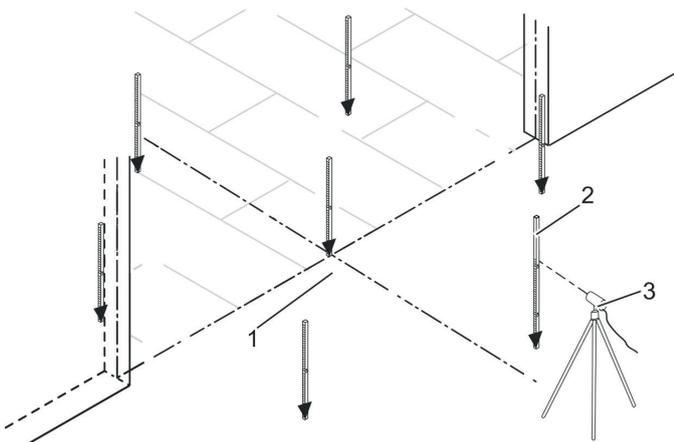

Fig. 35 Leveling finished floor
2. Position the laser leveling device (Fig. 35/3) horizontally in front of the assembly surface (Fig. 35/1).
3. Position the leveling staff (Fig. 35/2) vertically at any point on the assembly surface to select a reference point.
5. Take measurements at a minimum of 6 different points, as shown in the example in Fig. 35 and note the readings.